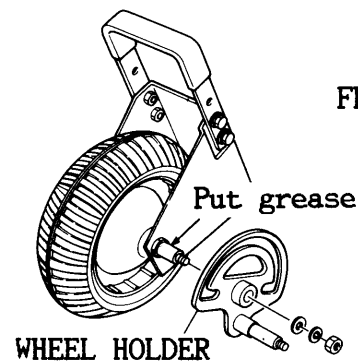

FIG. 3
3. Put grease on and around special nut, then mount wheel holder on the special nut. Install washer, spring washer and nut on front shaft and tighten them firmly. (Fig.3)